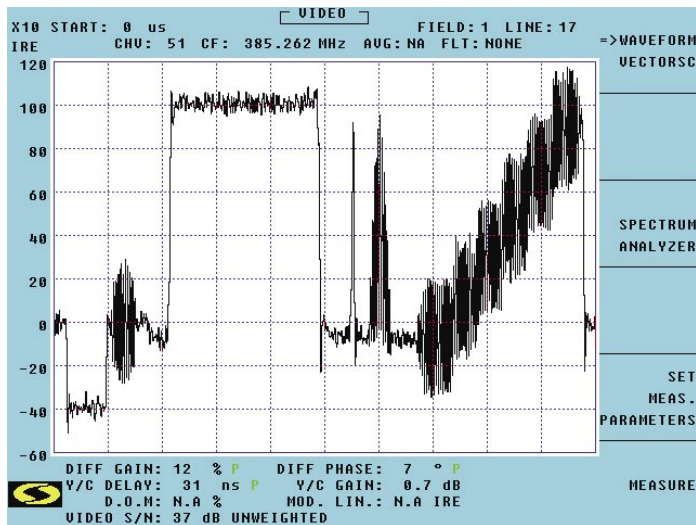

Figure 5
10. Press the measure soft key and the results will be displayed as in Figure 5.